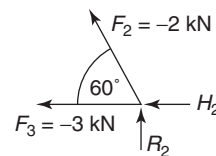

Figure 4.33
**Consider next joint (3),** see Figure 4.33.